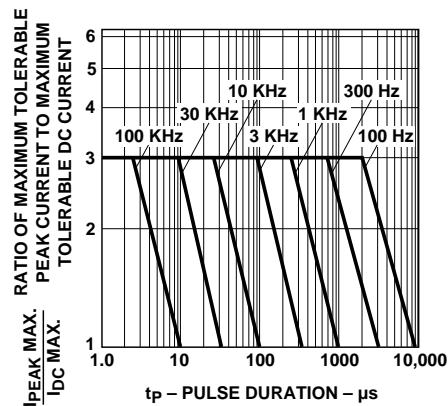

Figure 5. Maximum tolerable peak current vs. pulse duration. (I_{DC} Max. as per maximum ratings.)
- See Figure 5 to establish pulsed operating conditions.